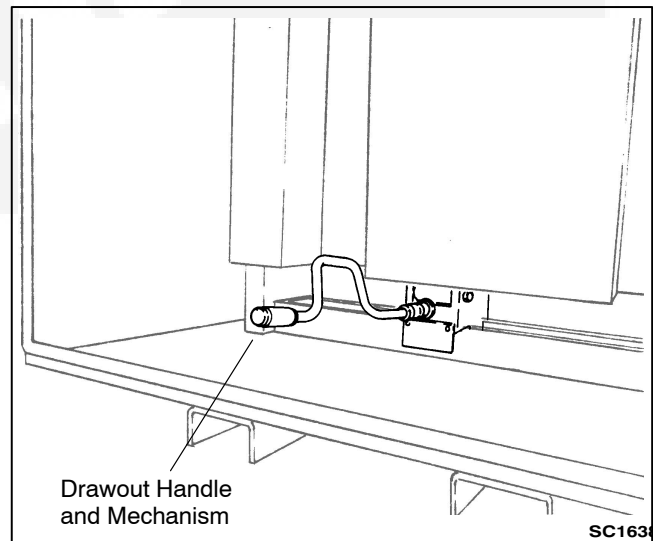

FIGURE 4-5. 1200 AMP DRAWOUT MECHANISM
4. Locate the drawout cranking handle and insert it into cranking mechanism. While pressing in on the cranking handle, rotate the drawout handle (Figures 4-5 and 4-6) counterclockwise to move the transfer switch out.